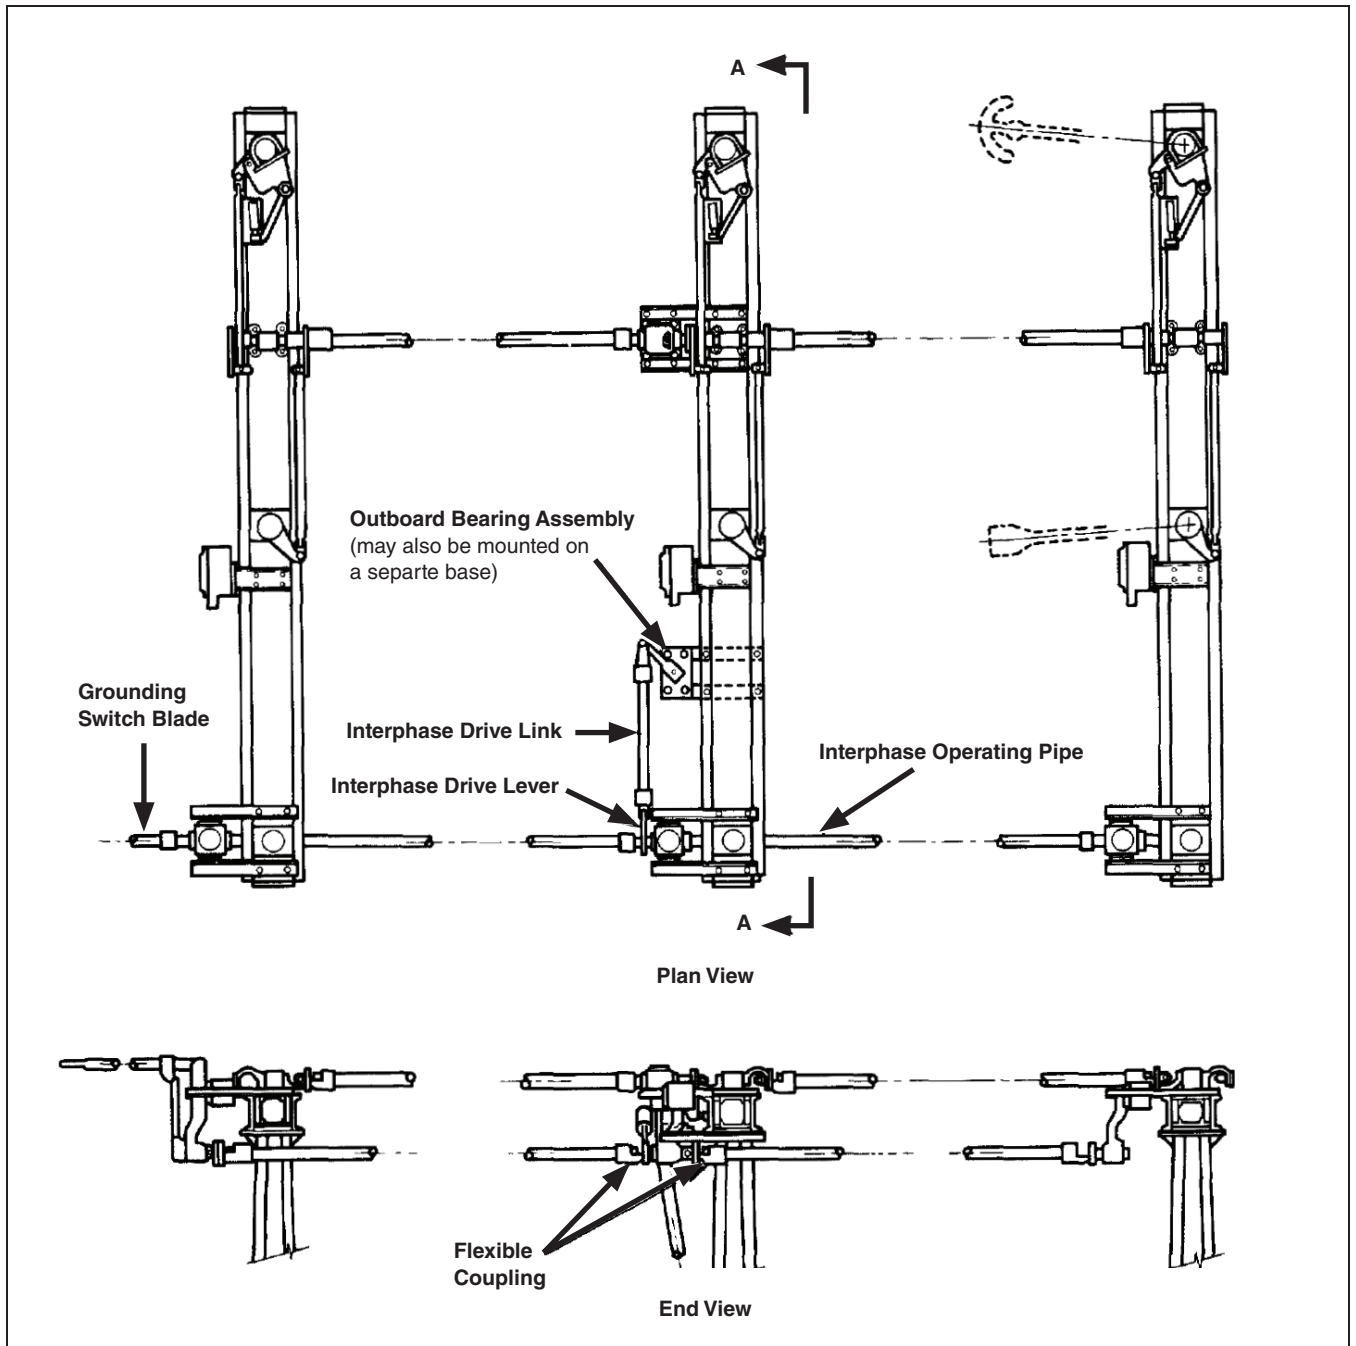

Figure 2. Typical three-pole grounding-switch configuration.
STEP 2. Mount the outboard bearing assembly at the position shown on the erection drawing. See Figure 2 on page 9.